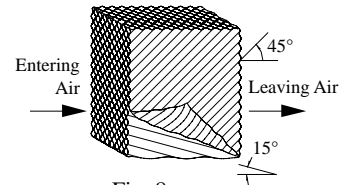

Fig. 8
**IMPORTANT:** In order to get the best performance from your cooling pads, they must be installed properly. If you have purchased a pad with two equal angles, the following instructions can be disregarded. Pads must always be installed with the steeper flute angle sloping down towards the air entering side (Fig. 8). The reason is simple. The steeper angle puts more water on the hot, dry, dirty side of the pad where it is needed most. It also counteracts the tendency of the air to push the water toward the back of the pad.